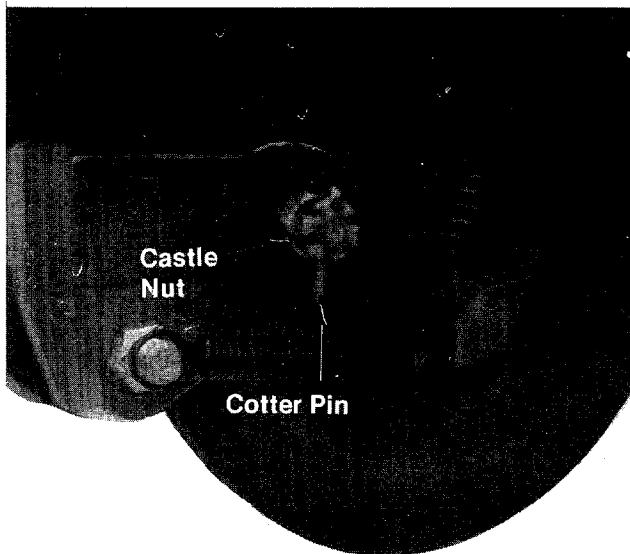

FIGURE 16.
2. Tighten (turn clockwise) the castle nut until it stops. See figure 16.